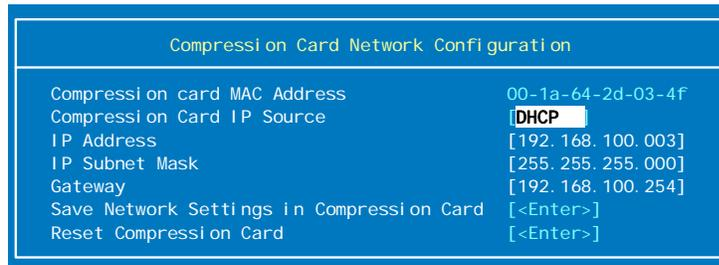

Figure 6-3 IP address of the HC10's compression card
3. The menu shows that the device is using DHCP and gives you the IP address (Figure 6-3). This IP address is the IP address of the HC10's compression card and can be used to access the Web interface.